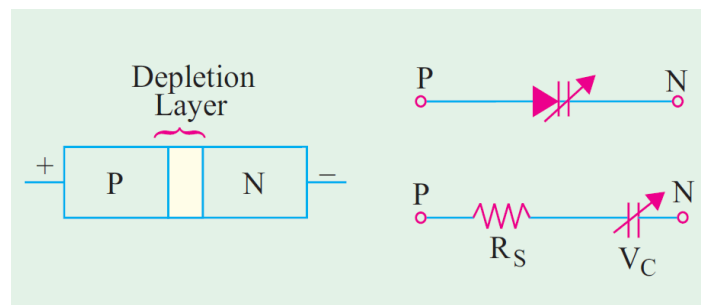

Figure 2. Transition Capacitance in a PN Junction Diode
- The symbol and diagram of a Varicap is shown in Figure 2.